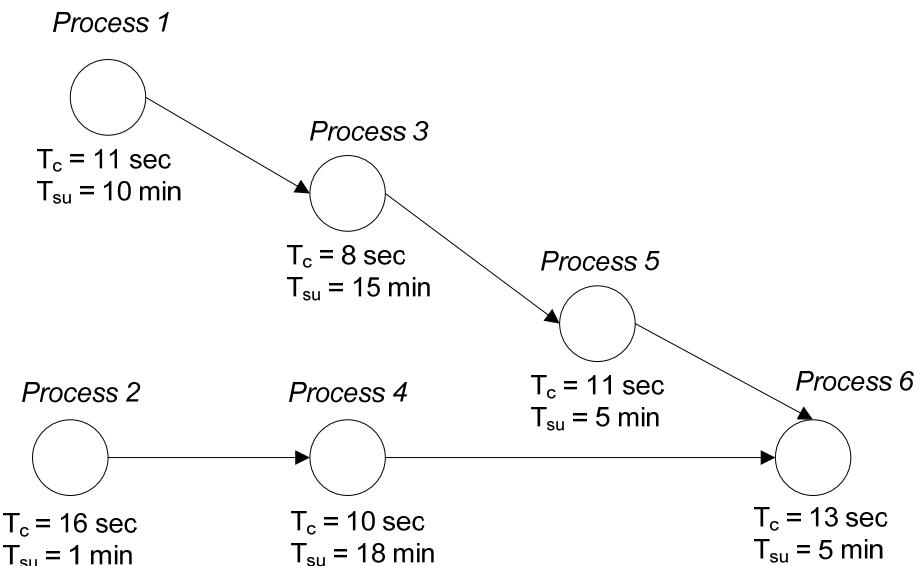

Figure 2
2. A product can be manufactured by going through six processes as depicted in Figure 2. The standard batch size is 100 units. Based on the information given in the figure, answer the following questions: